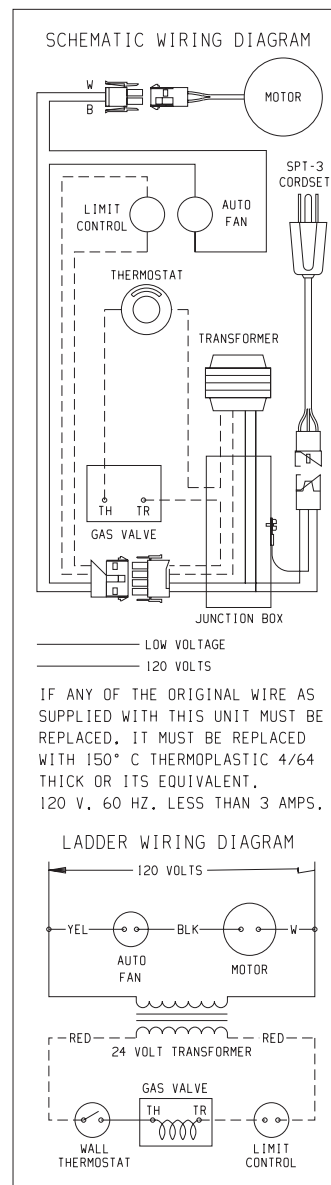

Figure 14
3. To check for line voltage to furnace, remove lower front panel and switch compartment cover and short across two-terminal fan control to allow fan to operate. (Figure 14)